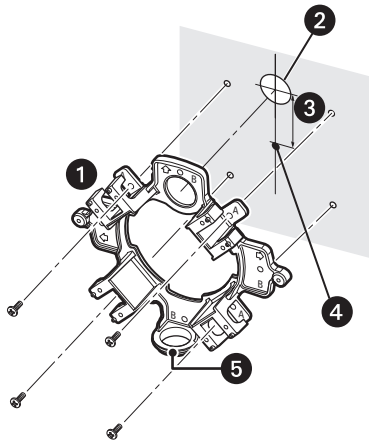

Figure 8. Installing the Mounting Base
3. Install the mounting base on the wall or ceiling (refer to Figure 8).